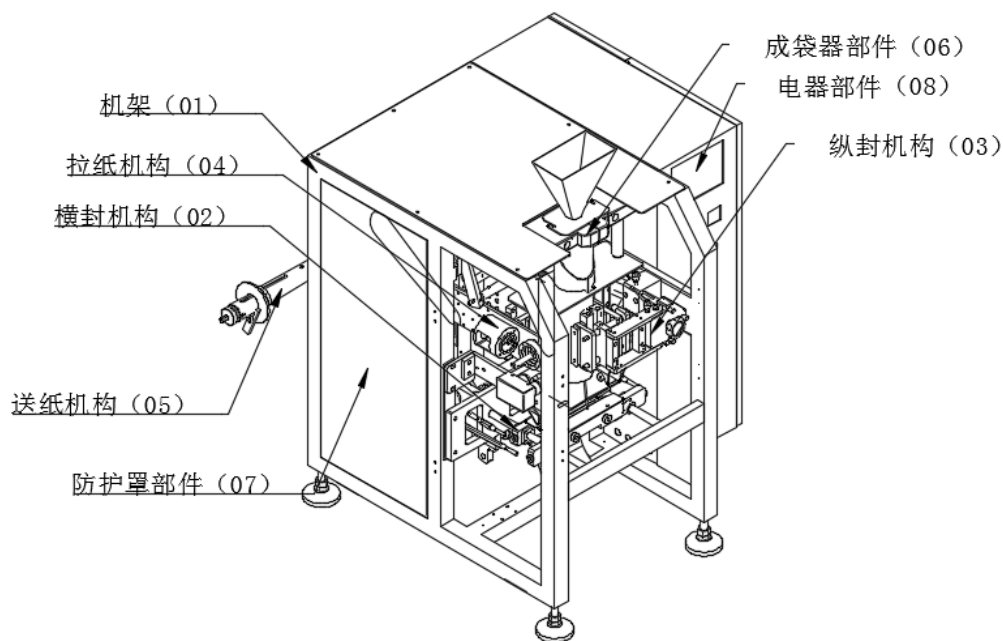

图 1 MD420 各主要部件及有关零件示意图 FIG. 1 diagram of main components and related parts of MD420
MD420 系列立式自动包装机是一款立式袋成型—充填—封口多功能包装机。其主要由机架 (00)、横封机构 (01)、中封机构 (02)、拉纸机构 (03)、送纸机构 (05)、成袋器部件 (06)、防护罩部件 (12)、电器部件 (01) 组成, 如图 1 所示: MD420 series vertical automatic packaging machine is a vertical bag-forming, filling and sealing multi-functional packaging machine. It is mainly composed of frame (00), horizontal sealing mechanism (01), vertical sealing mechanism (02), paper pulling mechanism (03), paper feeding mechanism (05), bagger component (06), protective cover component (12) and electrical component (01), as shown in figure 1:
控制面板位于机器右侧电器箱的中部(图 1)，其上有中封、端封 1、端封 2 两个温控表，启动、停止、急停三个按钮以及打码温控调节旋钮。各组成作用如下：The control panel is located in the middle of the electrical box on the right side of the machine (FIG. 1), on which are two temperature controller of vertical seal, horizontal seal 1 and horizontal seal 2, three buttons of start, stop and emergency stop, and temperature control knob. The functions of the components are as follows: